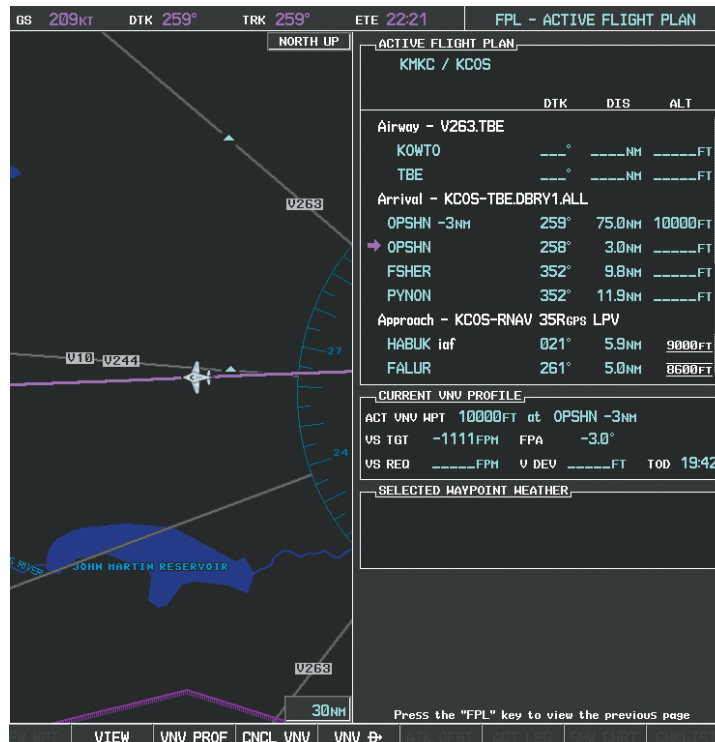

Figure 5-129 Loaded Approach
- i) With 'LOAD?' highlighted, again press the **ENT** Key. The selected approach is added to the flight plan as seen in Figure 5-129.